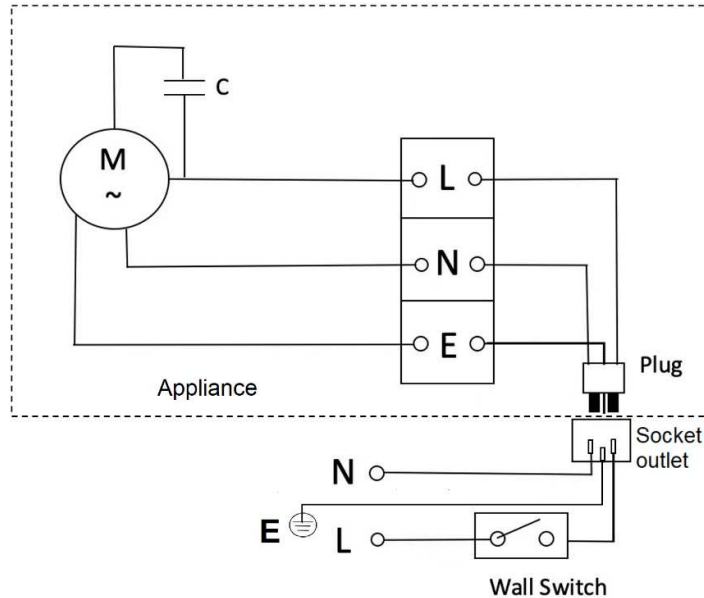

Fig. 4
- Before installation, check the installation location in the ceiling has access to a socket outlet which is connected to a wall switch. If it does not, please contact a licensed electrician to arrange installation of the socket outlet and wall switch before continuing. Refer to the circuit diagram section for more information. (Fig.4)